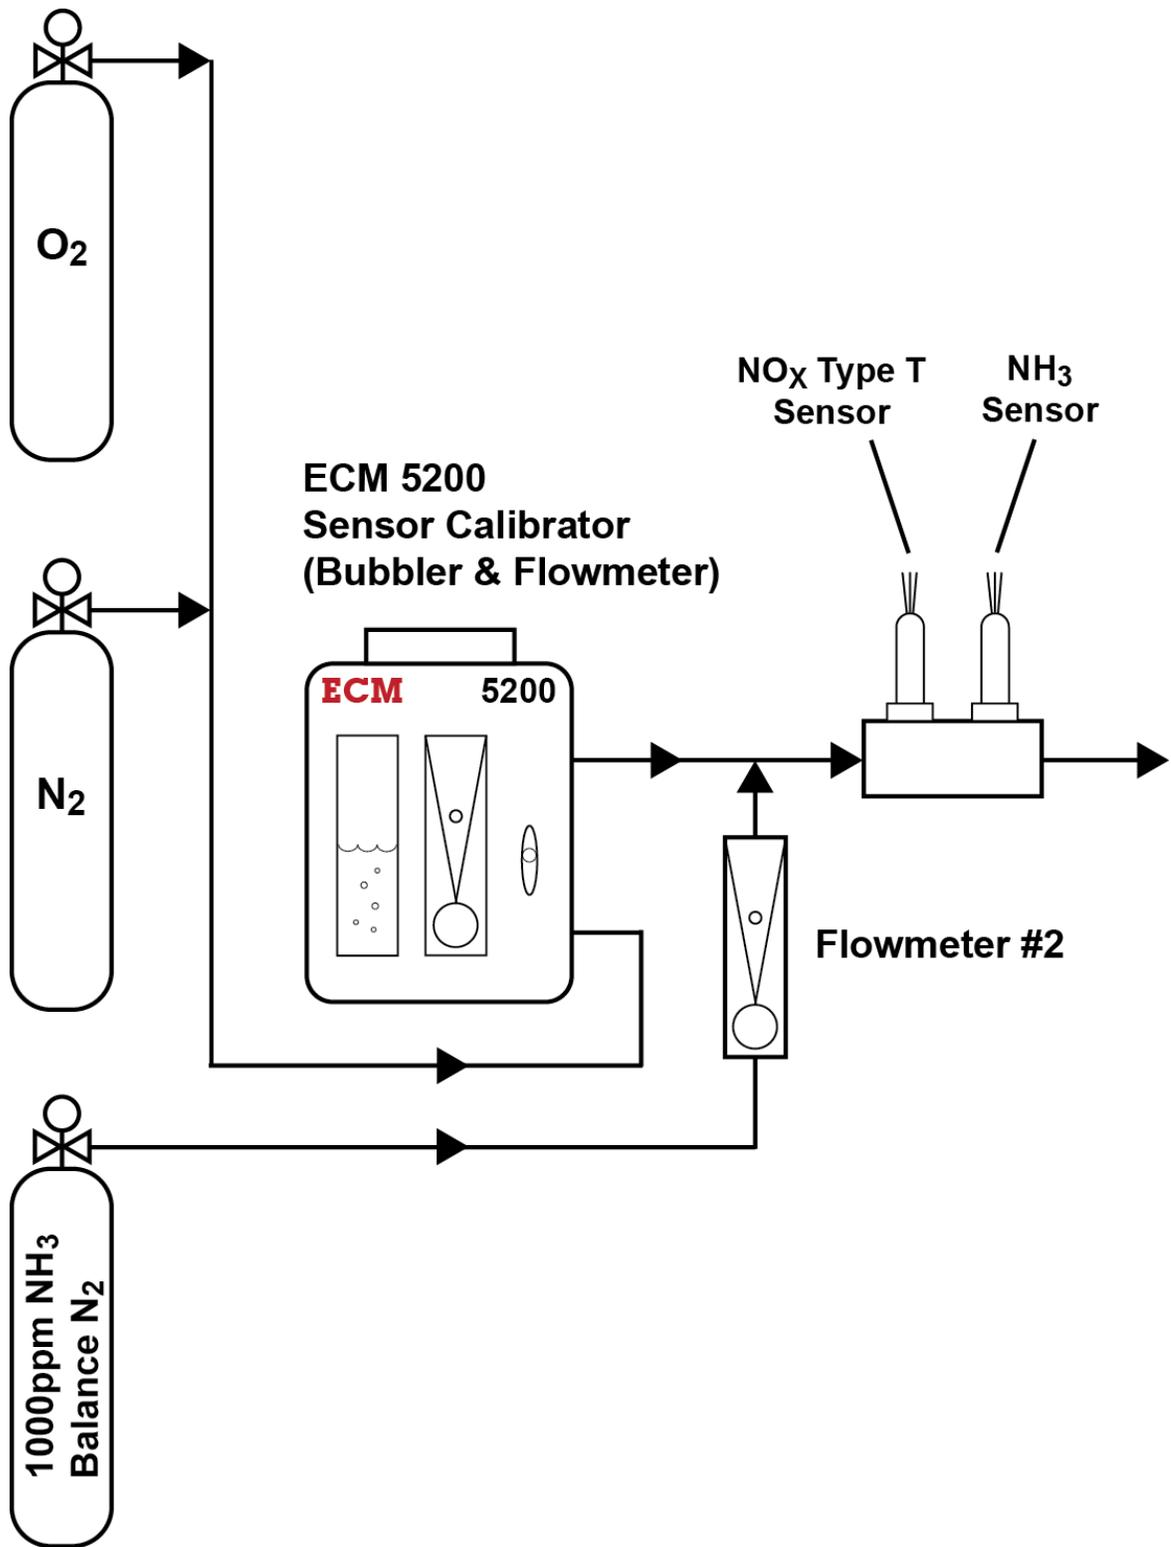

Figure 6: Model Gas Calibration Apparatus
2. Put the NH₃ sensor and the pressure sensor (if so equipped) in the model gas calibration apparatus shown in Figure 6 or in the exhaust of an engine.